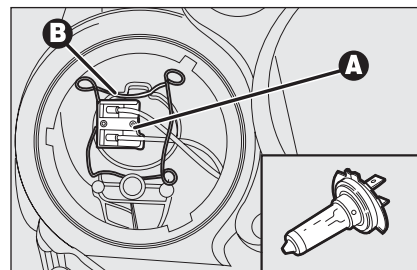

fig. 23
- ☐ disconnect the electric connector **A-fig. 23**;